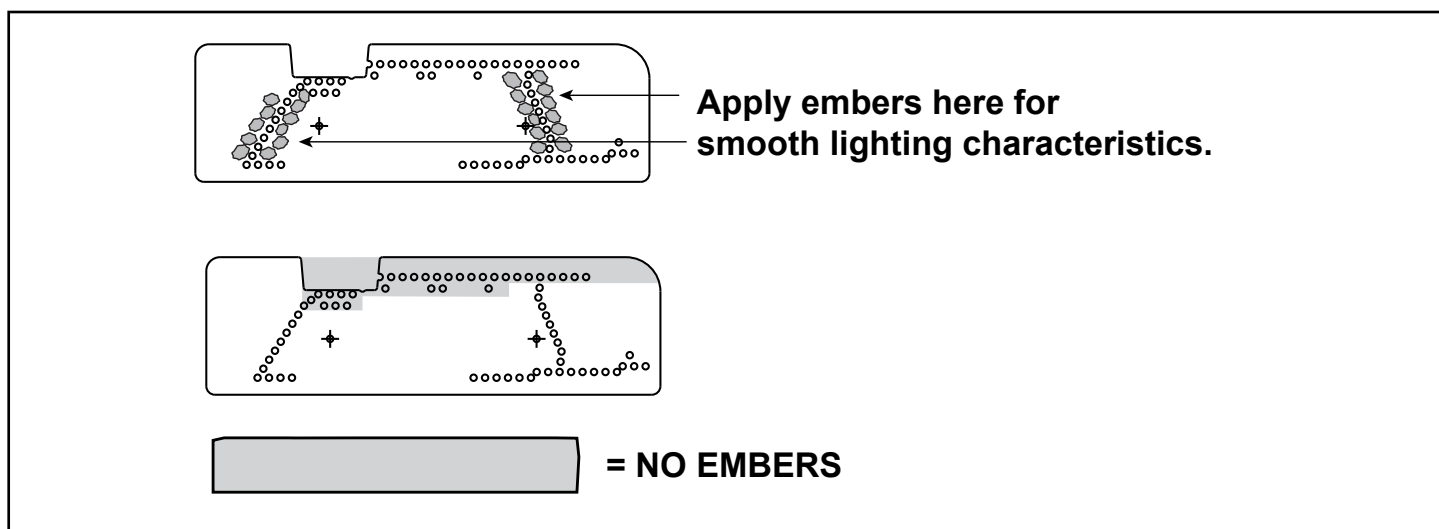

Figure 11.4 Burner Media / Ember Placement
- Embers may only be placed in areas as shown in Figure 11.4.